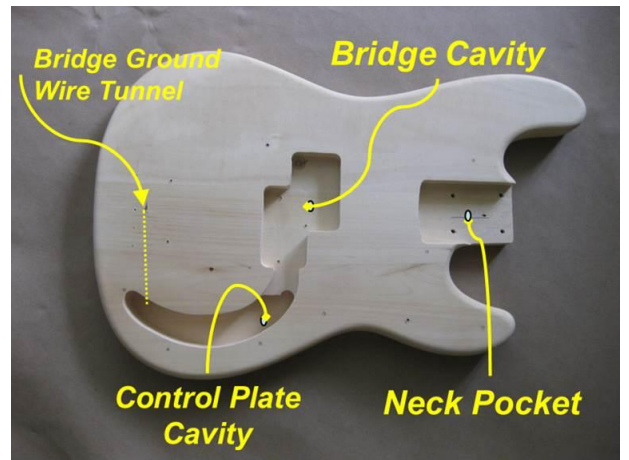

Figure 2.1 Body Locations
1. Check Neck pocket on the Body for pre-drilled (4) mounting holes (Figure 2.1);
1. Ensure that the tunnel for the Bridge ground wire is clear by inserting a small wire into the hole in the center of the top of the Body (reference Fig. 2.1) until it enters the Control Cavity.
2. Insert the Bridge (material list item #5) onto the Body (reference Figure 2.1), using the supplies 7 screws.